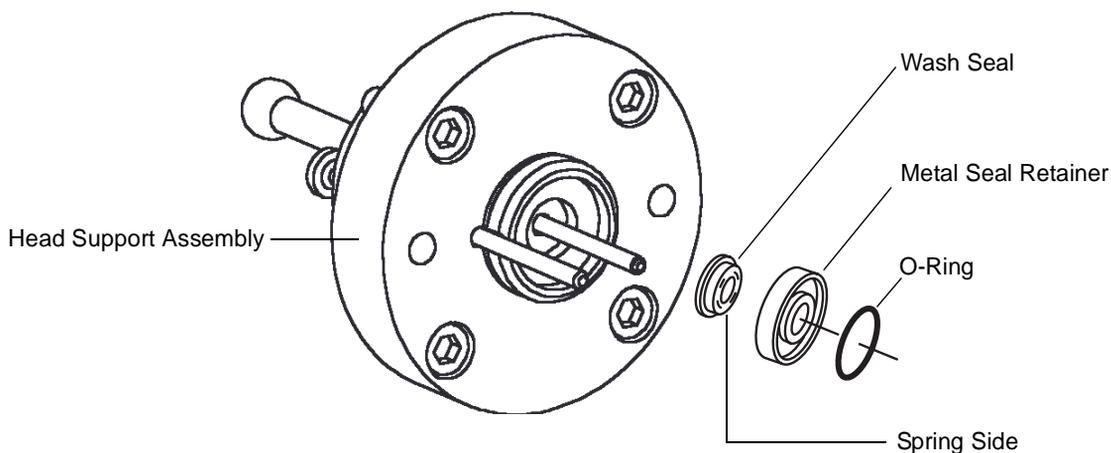

Figure 2-8 1525 μ Head Support Components
1. Use a piece of tape or tweezers to remove the metal seal retainer (Figure 2-8) from the head support.
3. Press the wash seal onto the opposite side of the seal retainer so that its spring faces the seal retainer (Figure 2-8).